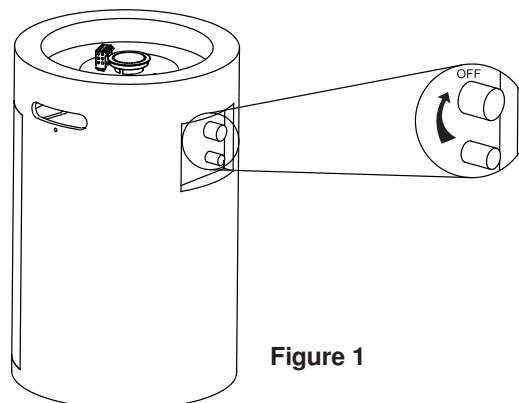

Figure 1
1. Ensure the gas control knob is in the “OFF” position before proceeding (see Figure 1).